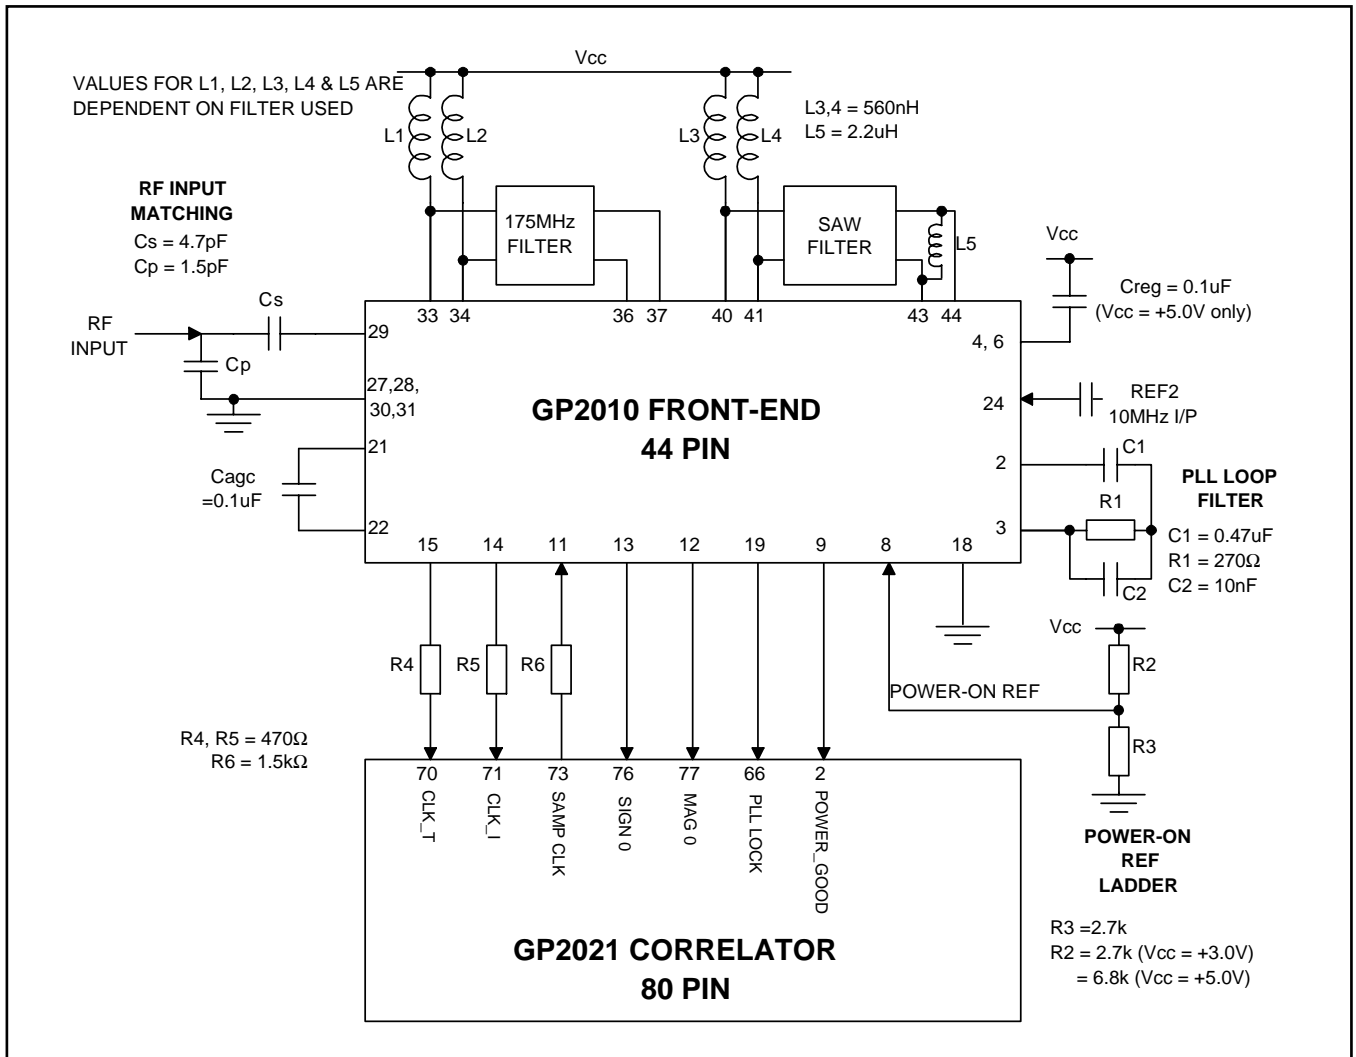

Fig. 4 GP2010 typical application
A typical application circuit is shown in figure 4 with the GP2010 front-end interfaced to the GP2021 12 channel correlator integrated circuit. The RF input has an unmatched input impedance (see page 4). The RF input matching components C_s and C_p should be mounted as close to the RF input as possible: also the V_{ee} (RF) tracks must be kept as short as possible. A SAW may be used as a 175.42MHz filter, but this can be replaced by a simpler coupled-tuned LC filter if there is no critical out-of band jamming immunity requirement. The DC bias to mixer 1 is provided via inductors L1 and L2, which may form part of the 175.42MHz filter. The output of mixer 2 requires an external dc bias, achieved with inductors L3 and L4, which also serve to tune out the input capacitance of the 35.42MHz SAW filter. The output of the SAW is tuned with inductor L5. The AGC capacitor (C_{agc}) determines the AGC time-constant. The PLL loop filter components are selected to give a PLL loop bandwidth of approx. 10kHz. The IF Output is normally used for test-purposes only, but is available to the user if required. Typically a low noise preamplifier (gain $> +15dB$) is used, and may be located with a remote antenna.